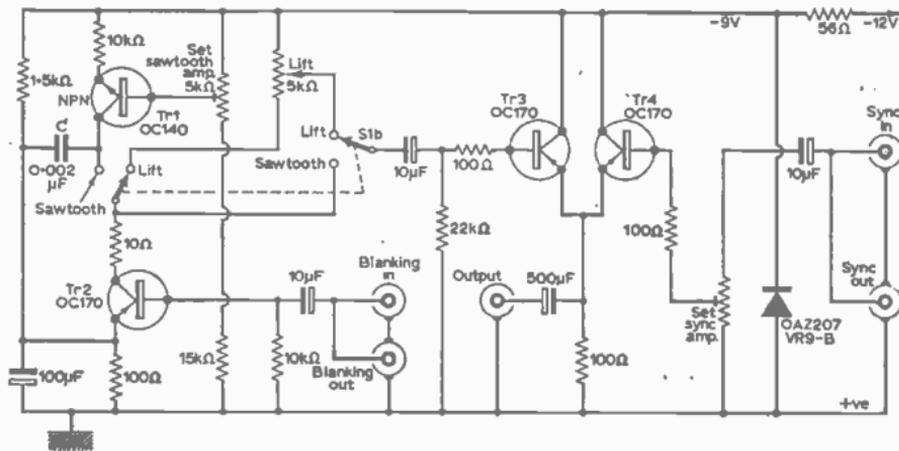

Fig. 4—Test waveform generator supplying sawtooth or variable lift waveform.
THE test waveform generator (Fig. 4) supplies either a sawtooth or a variable lift waveform. (Note that unless otherwise mentioned the pulses referred to are from the fully interlaced and critically timed pulse generator, but any important difference due to the
use of a simple pulse generator will be mentioned.) When the switch S1 is in the sawtooth position (Fig. 4) the capacitor (C) is charged through Tr1. The rate of charge depends on the bias on the base of the transistor; this controls amplitude of the sawtooth. Blanking pulses (the same as syncs with a simple pulse generator) are applied to Tr2 and cause it to conduct heavily and so discharge the capacitor (C). Thus we have the sawtooth waveform as in Fig. 5b. It is mixed with syncs (Fig. 5c) in the common load of Tr3 and 4, the result being shown in Fig. 5d. The sync amplitude is controlled by a potentiometer in the base circuit of Tr4. In the lift position blanking pulses are amplified and the amplitude set by the position of the lift potentiometer. Then syncs are added as before (Fig. 5c). This design uses OC170s where shown, but as these are being driven fairly hard one should always increase the sawtooth and sync amps from zero (the sawtooth zero amplitude is with the slider at the negative supply end of its travel) until the required amplitude is reached. Otherwise one might easily destroy the transistors. MAT101s have been used with success and are more robust but more expensive.